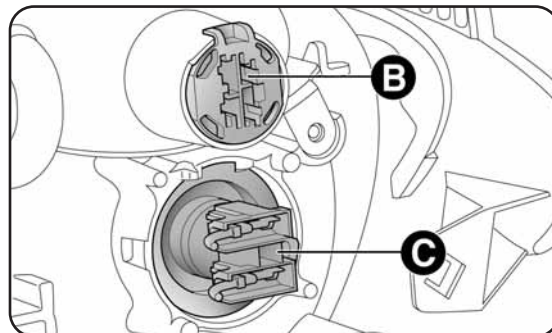

fig. 23
- withdraw lamp holder B-fig. 23, remove the bulb and replace it;
- withdraw lamp holder C-fig. 23, remove the bulb and replace it;